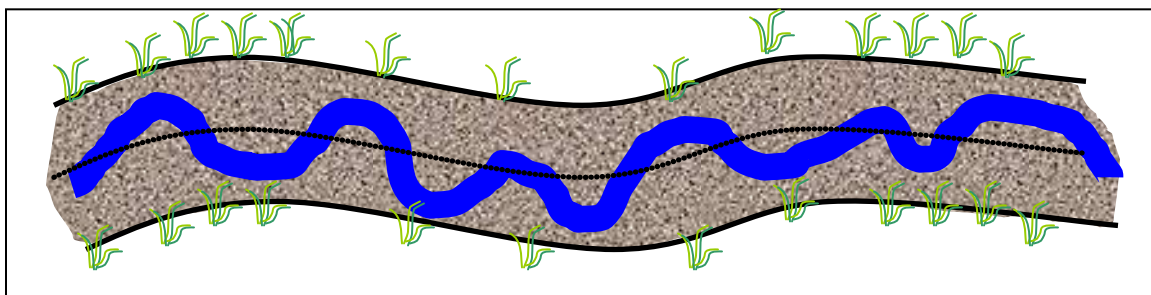

Figure 11 – Dotted line represents centerline of the bankfull channel; blue line represents a summer low flow channel
* This can be interpreted as the centerline of the creek if water was filled from bank to bank, which may be different than the centerline of the creek during the low flow summer months (Figure 11).